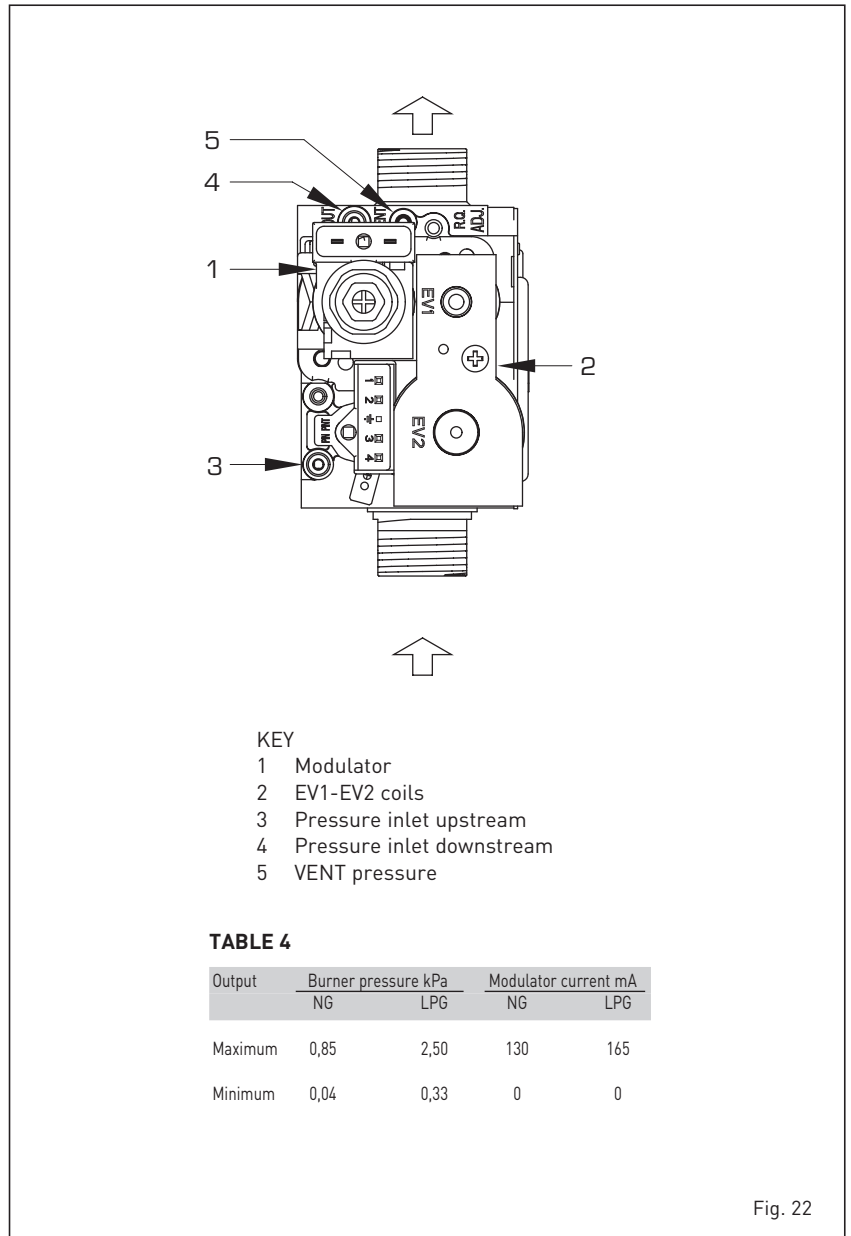
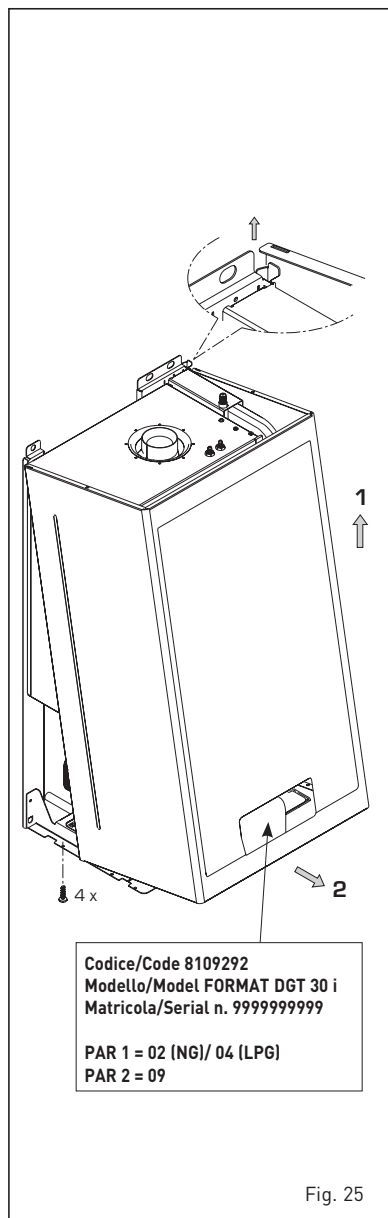

Fig. 22
Fig. 25
The boilers are equipped standard with the SIT 845 SIGMA gas valve (fig. 22). The gas valve is set at two pressure values: maximum and minimum. According to the type of gas burnt, these correspond to the values given in **Table 4**. The gas pressures at the maximum and minimum values, are factory set. Consequently they must not be altered. The gas valve will require resetting on conversion to another gas (Natural gas to LPG).
- Connect a manometer to the intake downstream of the gas valve (4 fig. 22).
Disconnect the valve VENT pressure test point tube (5 fig. 22).
- Remove the cap (1) from the modulator.
- Adjust maximum pressure using the nut (3) with a wrench to the maximum pressure valve indicated in **Table 4** (fig. 22).
- Hold the nut (3) in place, turn the screw (2) to the minimum pressure indicated in **Table 4**.
- Put the plastic cap (1) back on the modulator. Check all test points and connections for gas tightness.
6.4.3 DISMANTLING THE CASING (fig. 25)
ly to facilitate boiler maintenance, as shown in fig. 25. Turn the panel control forward for access to the internal components of the boiler.
- Remove the outer casing as shown in fig. 25; remove the combustion chamber cover and the burner cover.